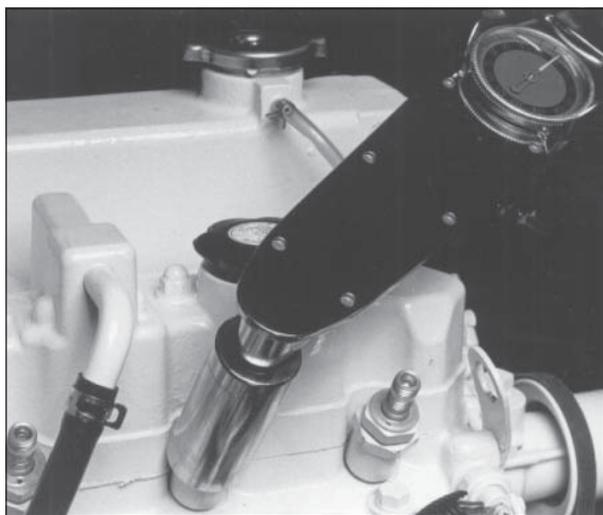

Figure 14: Reinstall injector. Torque to proper tightness.
- b. Screw in injector and tighten to 43 or 50 ft/lbs (6 to 7 kgm) (Figure 14).